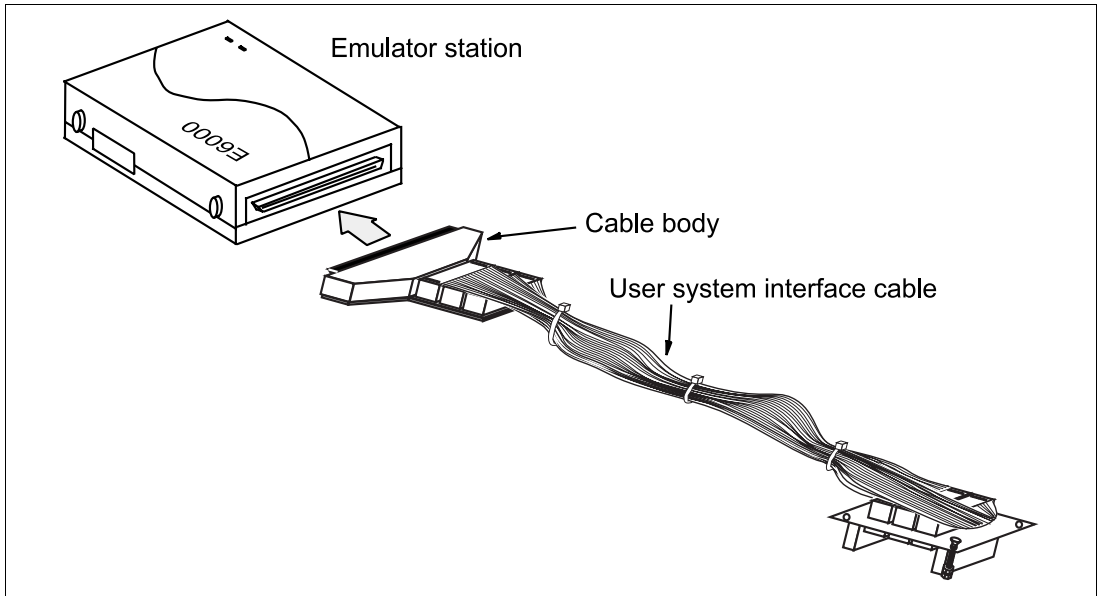

Figure 2 Connecting User System Interface Cable to Emulator Station
2. After making sure the direction of the cable body connector is correct, firmly insert the cable body connector into the emulator station socket (figure 2).